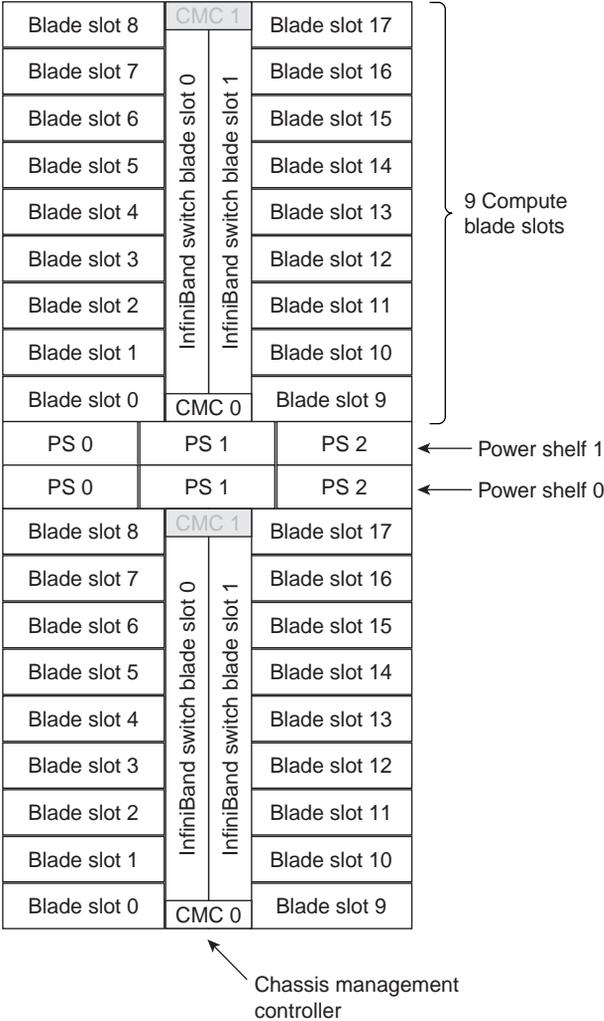

Figure 3-9 Single-node D-Rack Blade Enclosure Pair Component Front Diagram
- **Single-wide compute blade.** Holds one or two node boards and up to 16 memory DIMMs. See Figure 3-9 on page 43 for an example of blade number assignments.